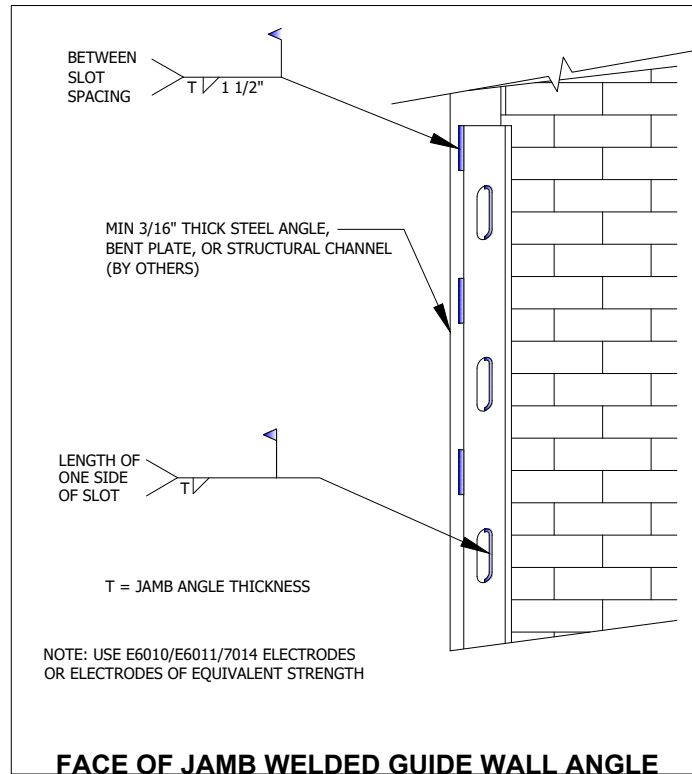

FIGURE 14
- a. Create weldments only within the specifications shown in Figure 14 (APPX-C).